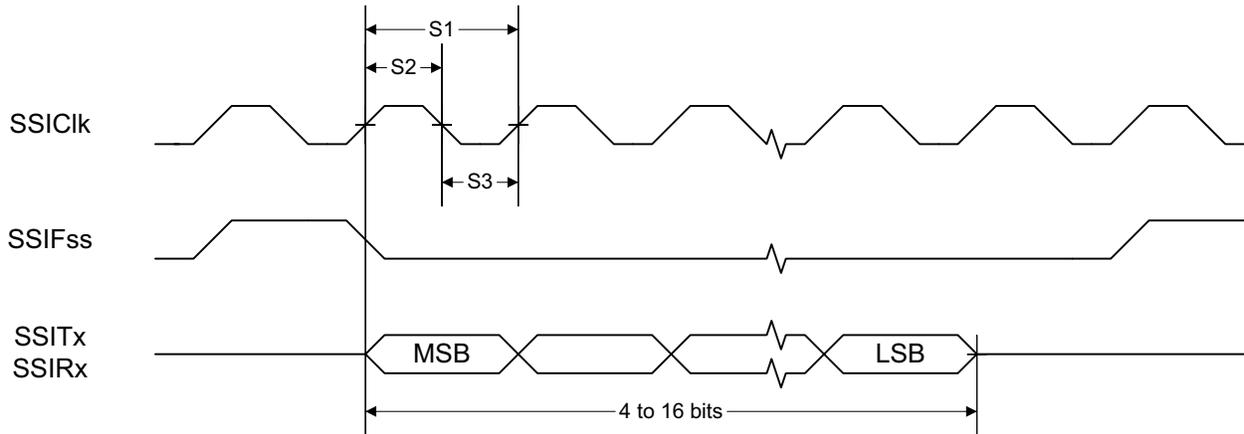
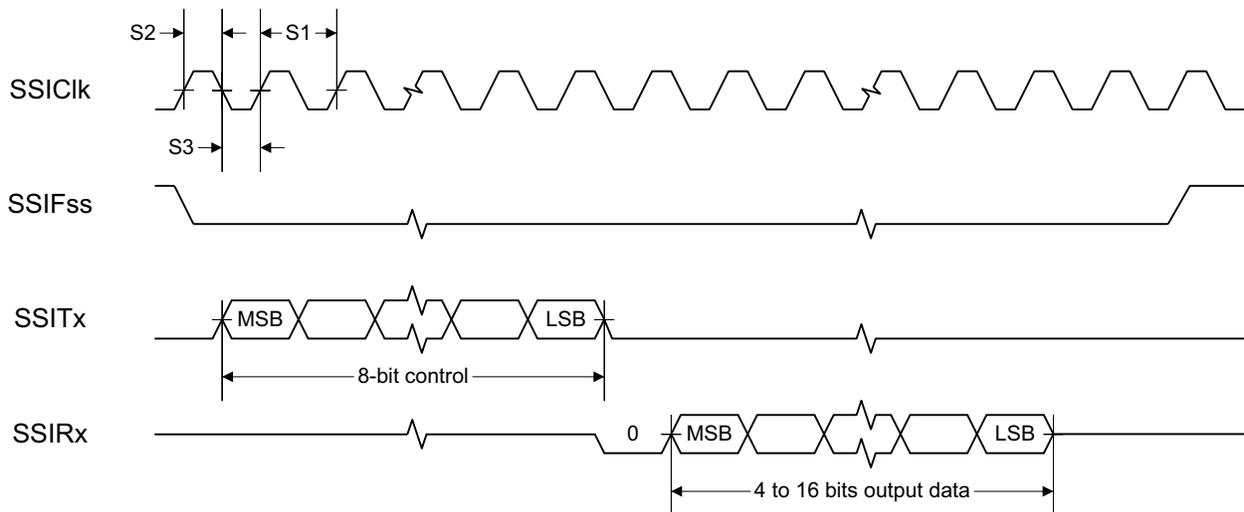
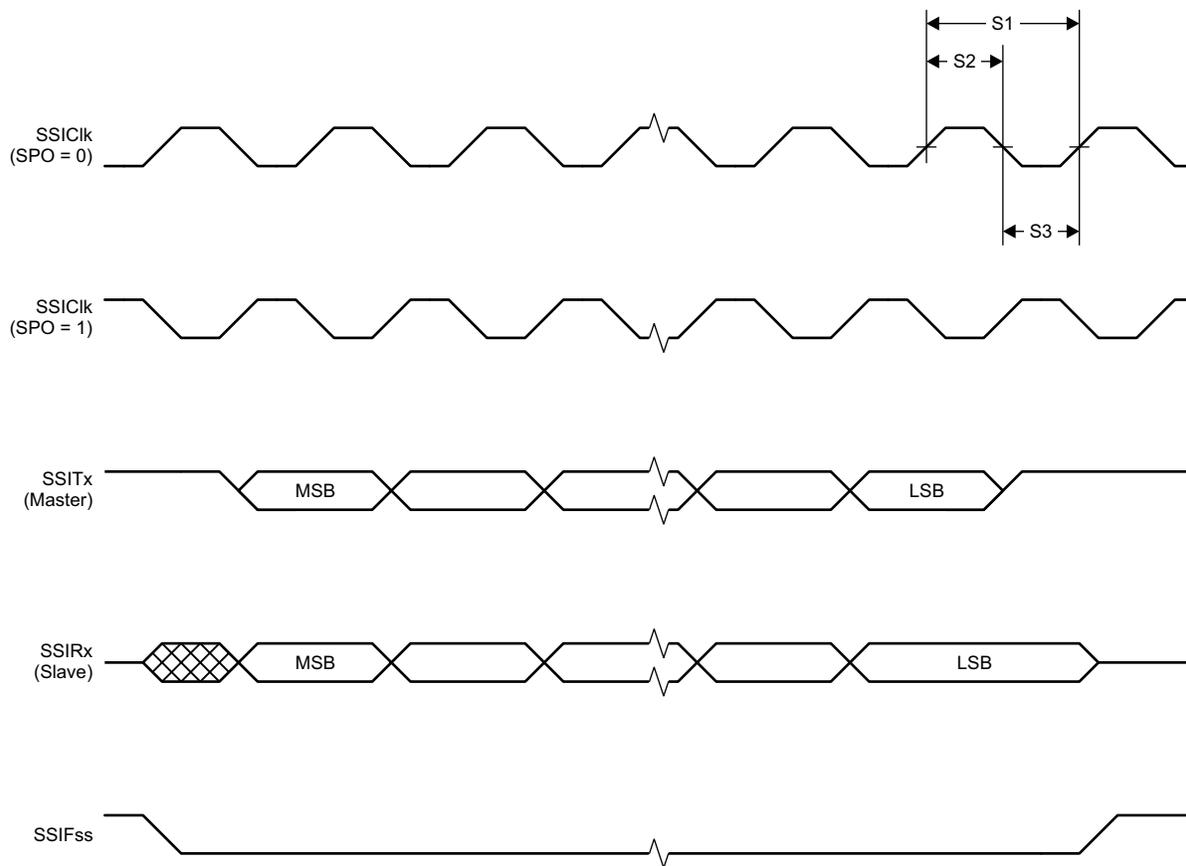

図 8-1. SSI Timing for TI Frame Format (FRF = 01), Single Transfer Timing Measurement
図 8-2. SSI Timing for MICROWIRE Frame Format (FRF = 10), Single Transfer
図 8-3. SSI Timing for SPI Frame Format (FRF = 00), With SPH = 1
- (1) Refer to SSI timing diagrams 図 8-1, 図 8-2 and 図 8-3.
(2) When using the TI-provided Power driver, the SSI system clock is always 48 MHz.